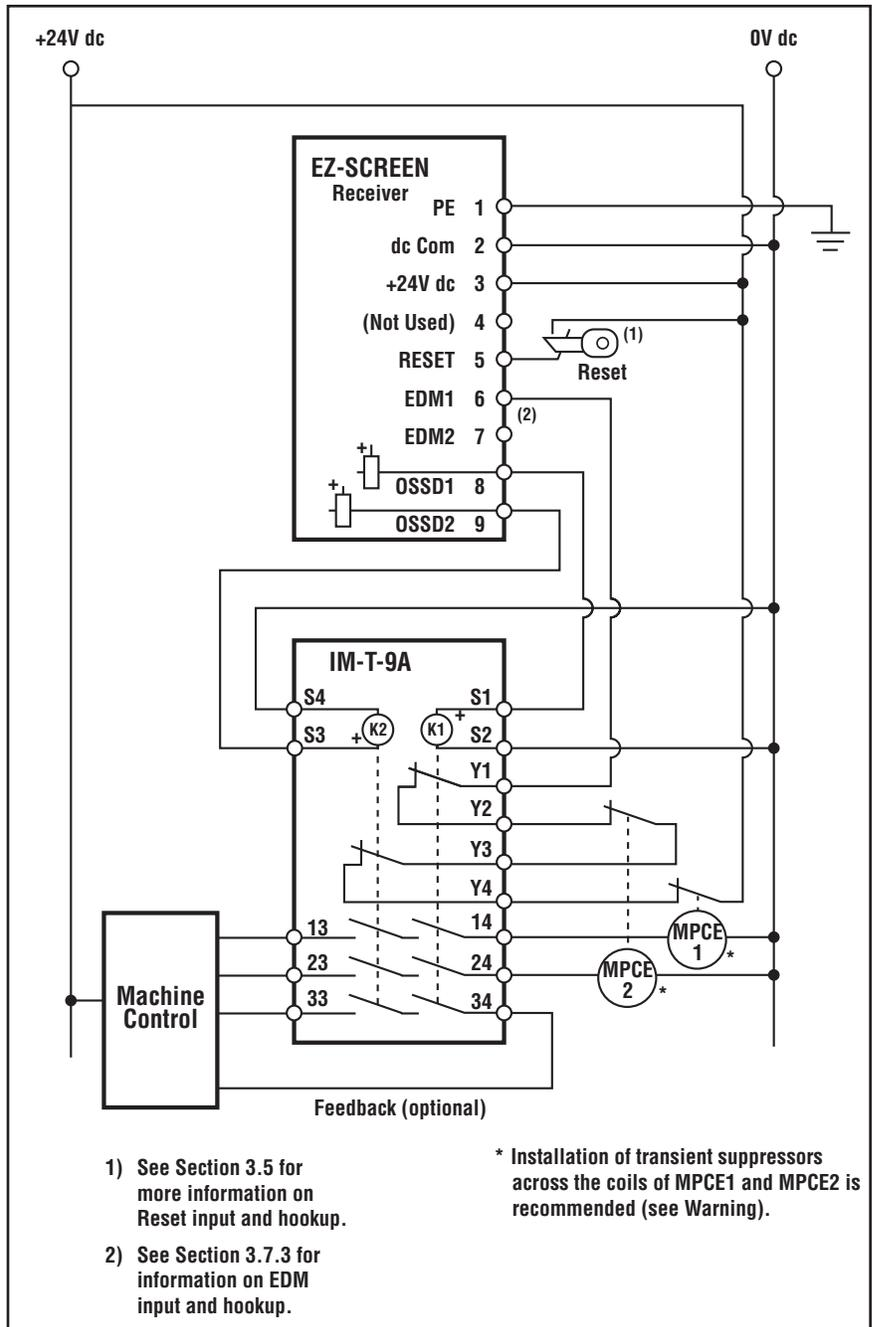

Figure 3-18. EZ-SCREEN receiver generic hookup – interface module (1-channel EDM, key reset)
- **One-channel monitoring** is a series connection of closed monitor contacts that are forced-guided (captive contact) from each device controlled by the EZ-SCREEN Grid. The monitoring contacts should open within 200 milliseconds of the OSSD outputs turning on (a clear condition) and should close within 200 milliseconds of the OSSD outputs turning off (a blocked condition) or a lockout will occur (see Diagnostics, Section 5.1). Refer to Figure 3-18 for 1-channel EDM hookup. Connect the monitor contacts between +24V dc and EDM1 (terminal 6). Leave EDM2 (terminal 7) open (no connection). Set the configuration DIP switches to 1, per Section 4.1.